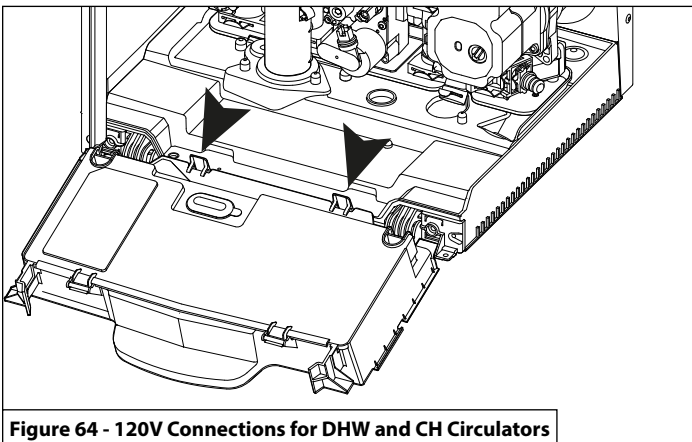

Figure 64 - 120V Connections for DHW and CH Circulators
5. Disconnect the two clips See Figure 64.